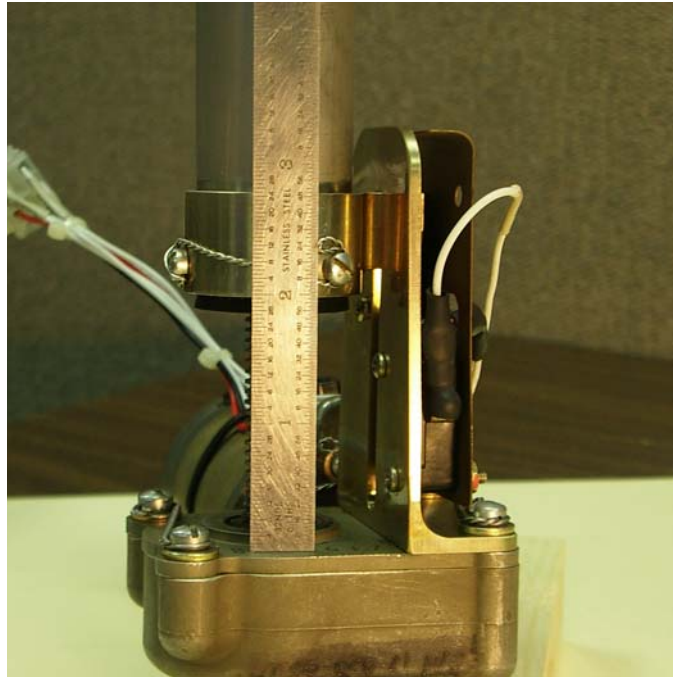

Figure 3: Maximum Stroke Limit at 1.95"
- M. Check the spring housing travel and adjust the switch positions to ensure that the retracted and extended spring housing travel are within the limits specified on the drawing or as determined in the note below. Enlist a second person to assist with the cyclic operation while conducting measurements and adjustments (Figure 3).